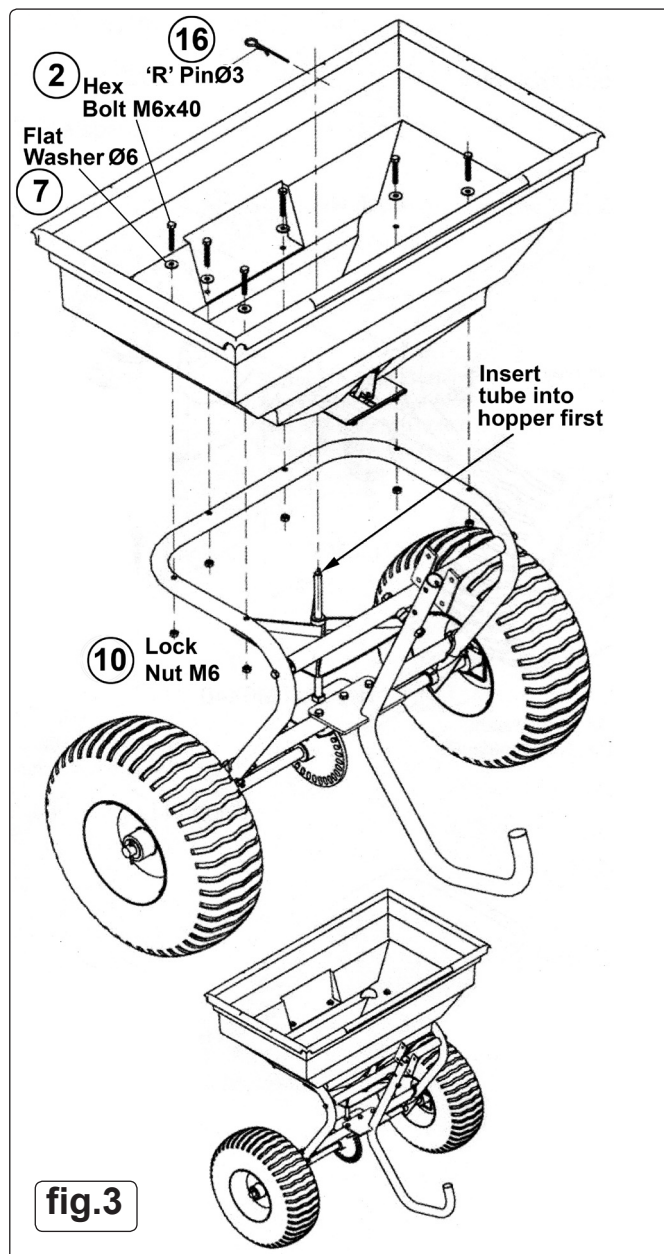

fig.3
4.3 INSTALLING THE HOPPER. (refer to fig.3)